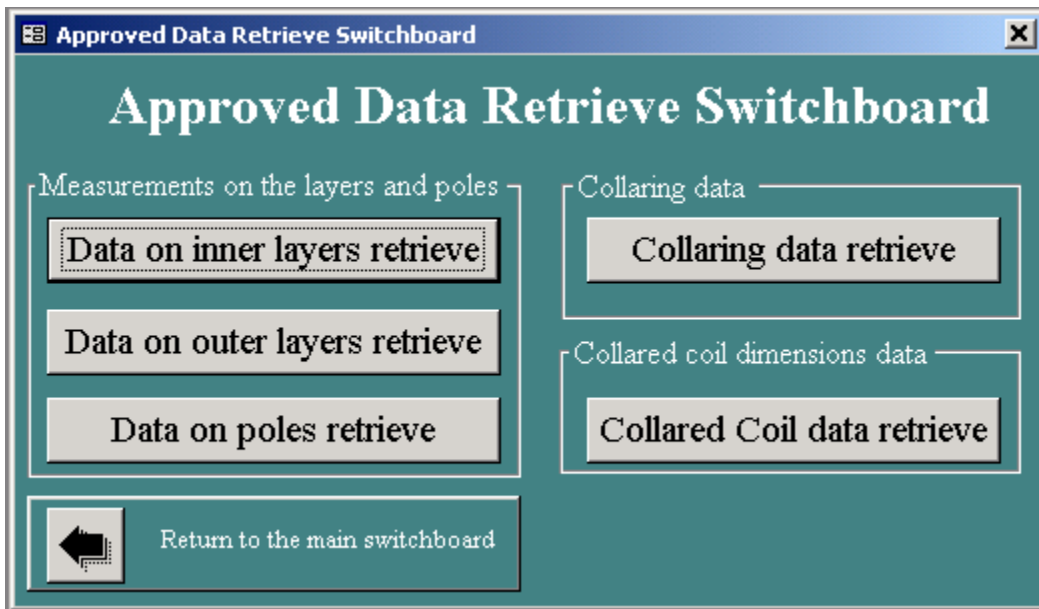
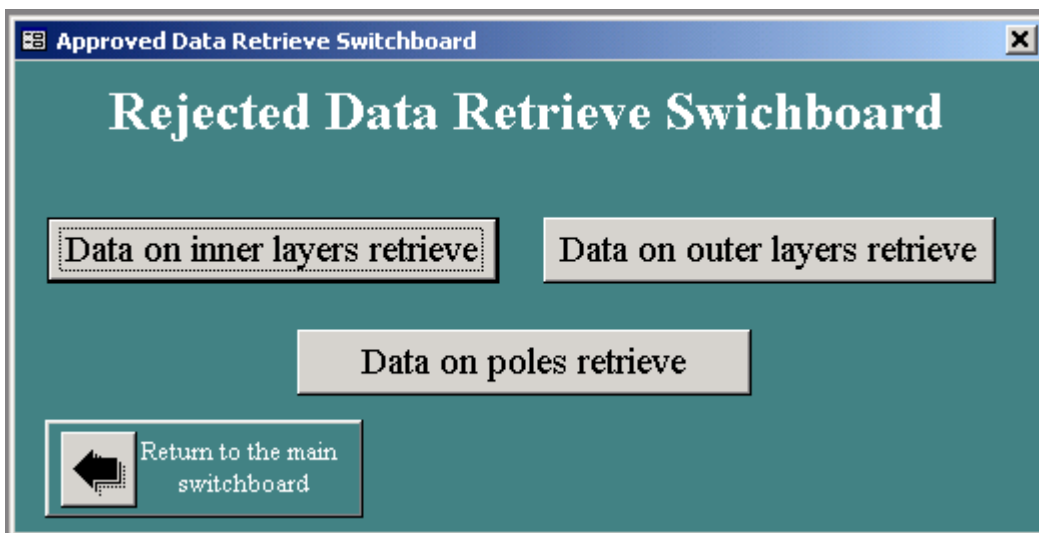
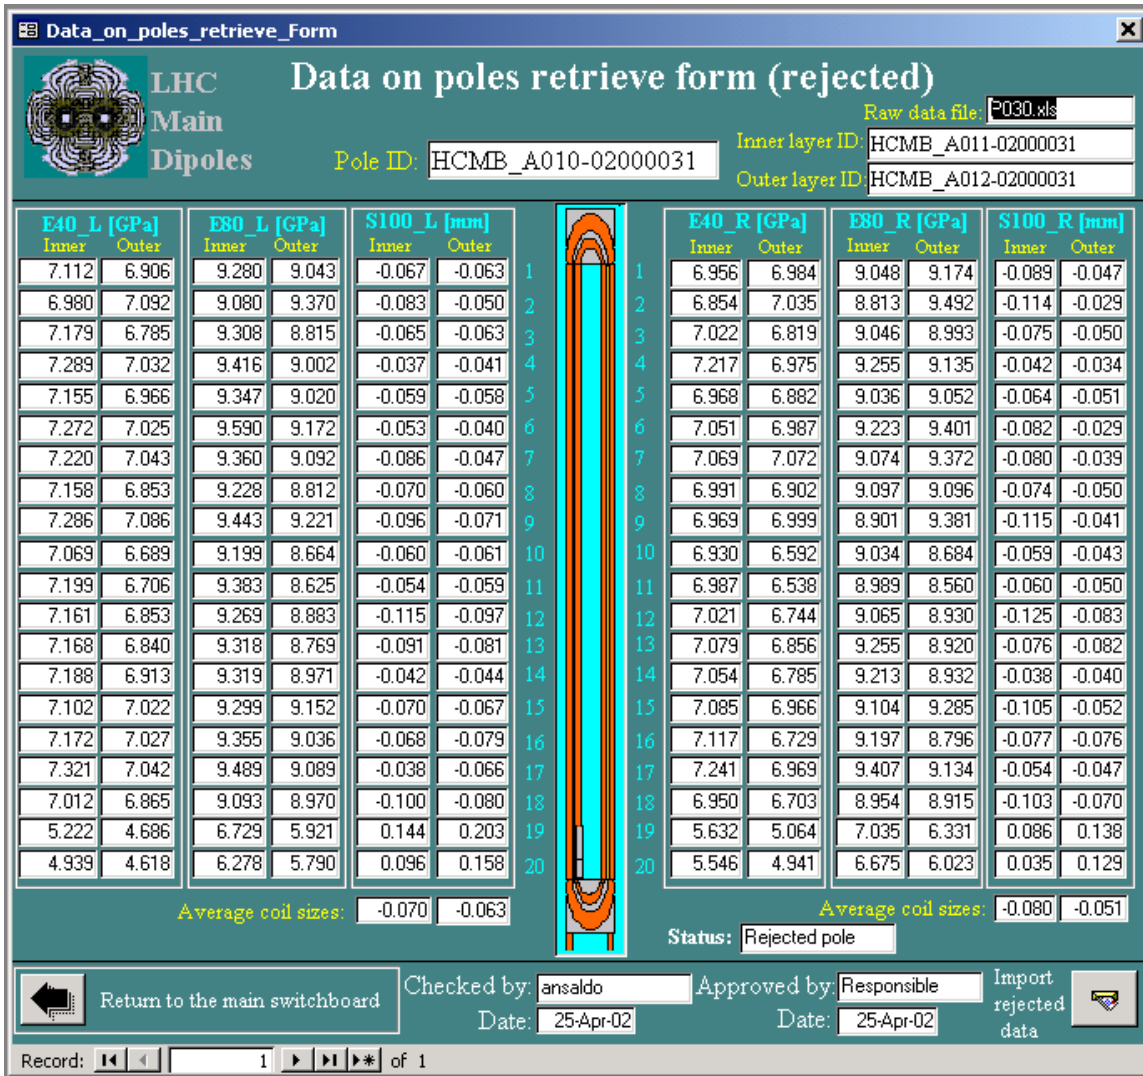

Figure 8
Figure 9
Figure 11
2. The Contractor's Responsible updates the database through the "Data on the poles retrieve" form (figure 10) or "Rejected poles retrieve" form (figure 11). He could access these form through the corresponding switchboard: "Approved Data Retrieve Switchboard" (figure 8) or "Rejected data retrieve Switchboard" (figure 9). For example, in case of approved data, in order to update the database the Responsible has to press the button "Check for new approved data" in "Data on the poles retrieve" form and the data will be imported into the "Approved_poles_t" table as a new record. It should be noticed, that since the data was approved by CERN and transferred to the Contractor's database, it is no longer accessible for editing and can be retrieved thought retrieve type forms only (all fields in these forms are protected against editing).